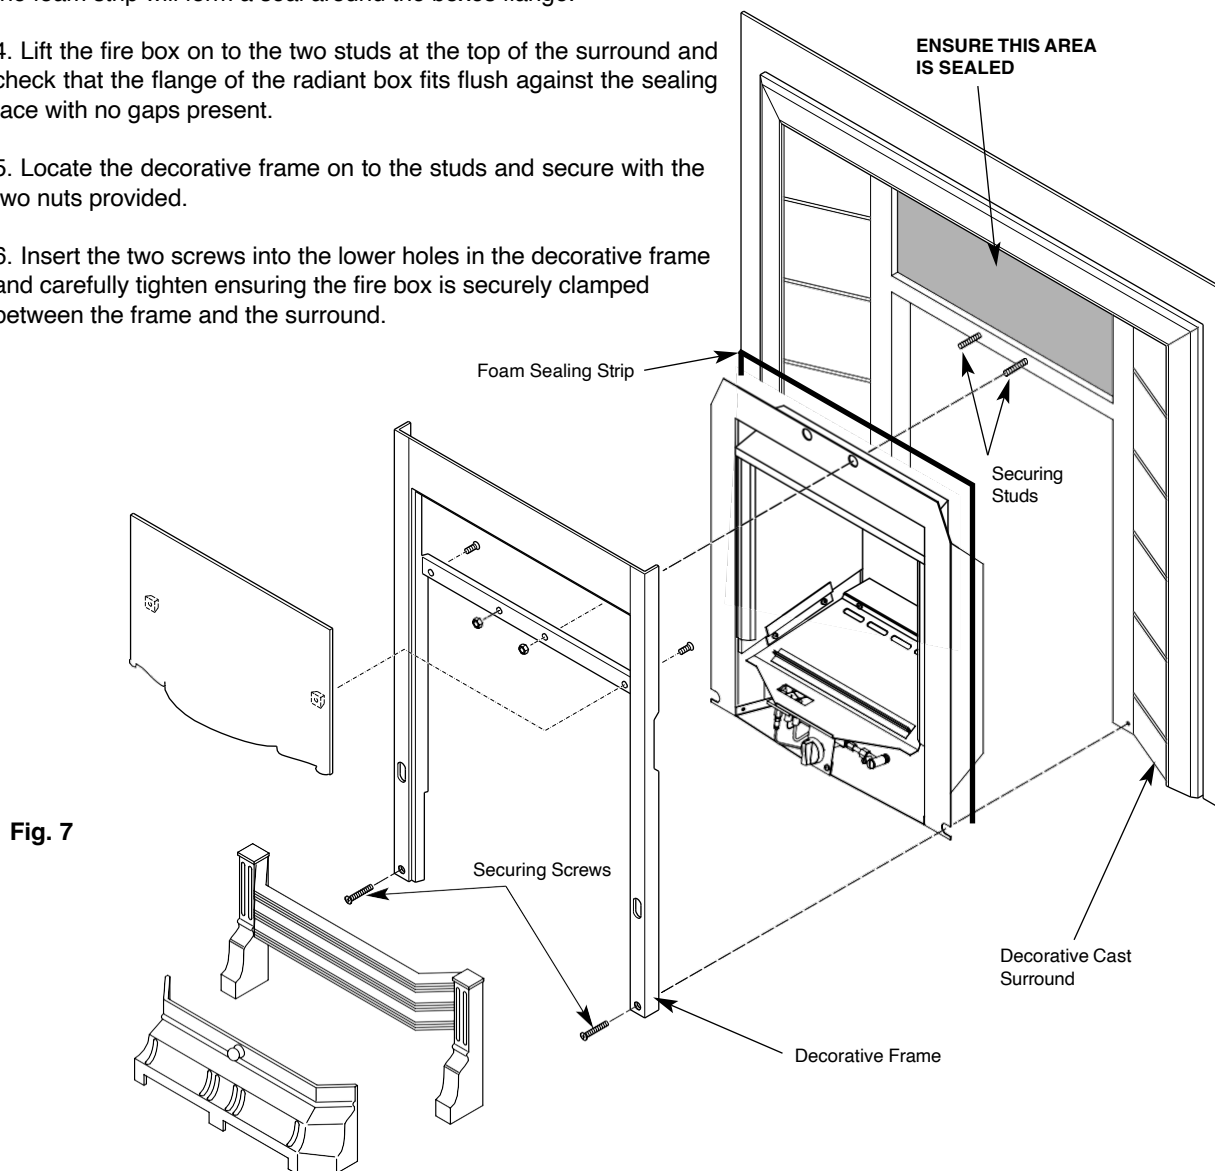

Fig. 7
1. Install the decorative cast surround into the fireplace opening and ensure it is fully sealed including the open area above the fire (see Fig. 7).